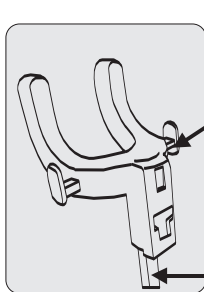

Figure 8
1. Insert the hanger(A) into the telescopic pole(B).(Figure 8)